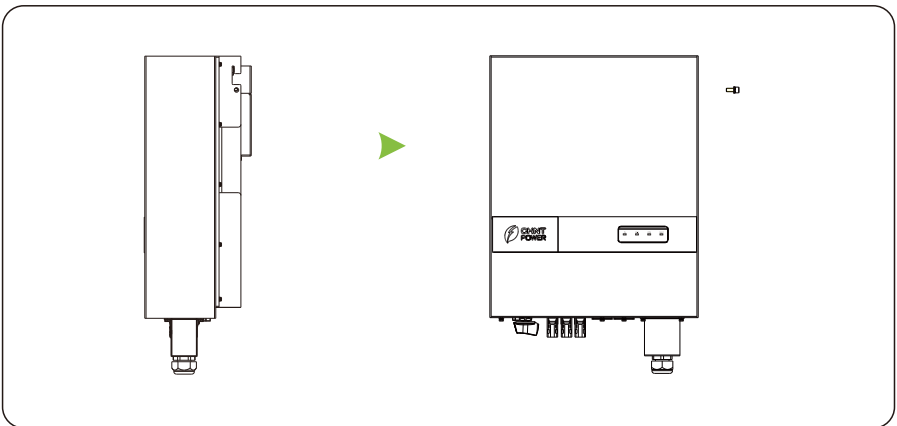

Figure 4.14 Securing the inverter
Step 2 Tighten the screws to lock the inverter with the rear panel and ensure that the inverter is secured, as shown in Figure 4.14.